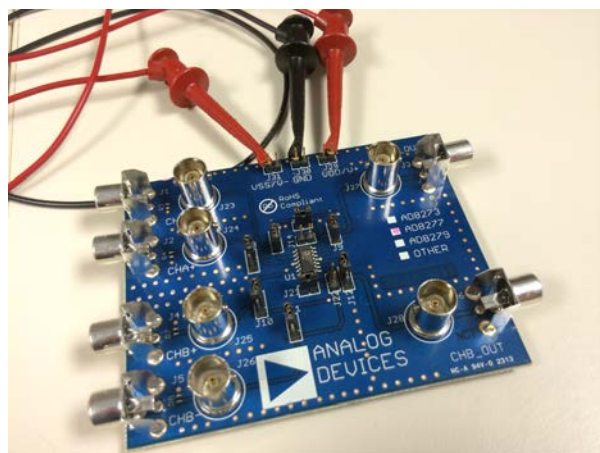

Figure 3. The AD8273/AD8277/AD8279 Evaluation Board with the Basic Power Connections
1. With the power supply off, connect the power supply leads to the header, located at the top of the board (see Figure 3).